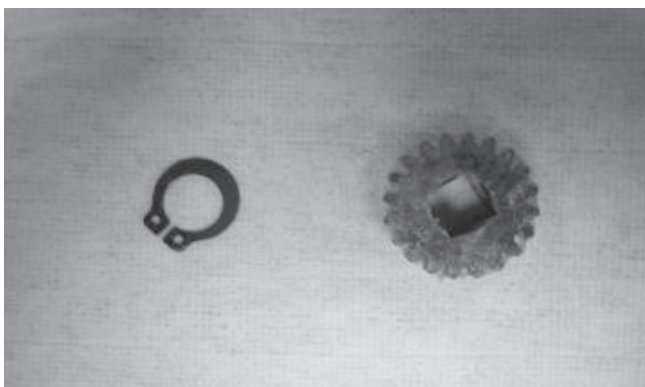

Figure 15.
- 4.17 After the last step you should have both the retaining ring and pinion gear shown in Figure 15.